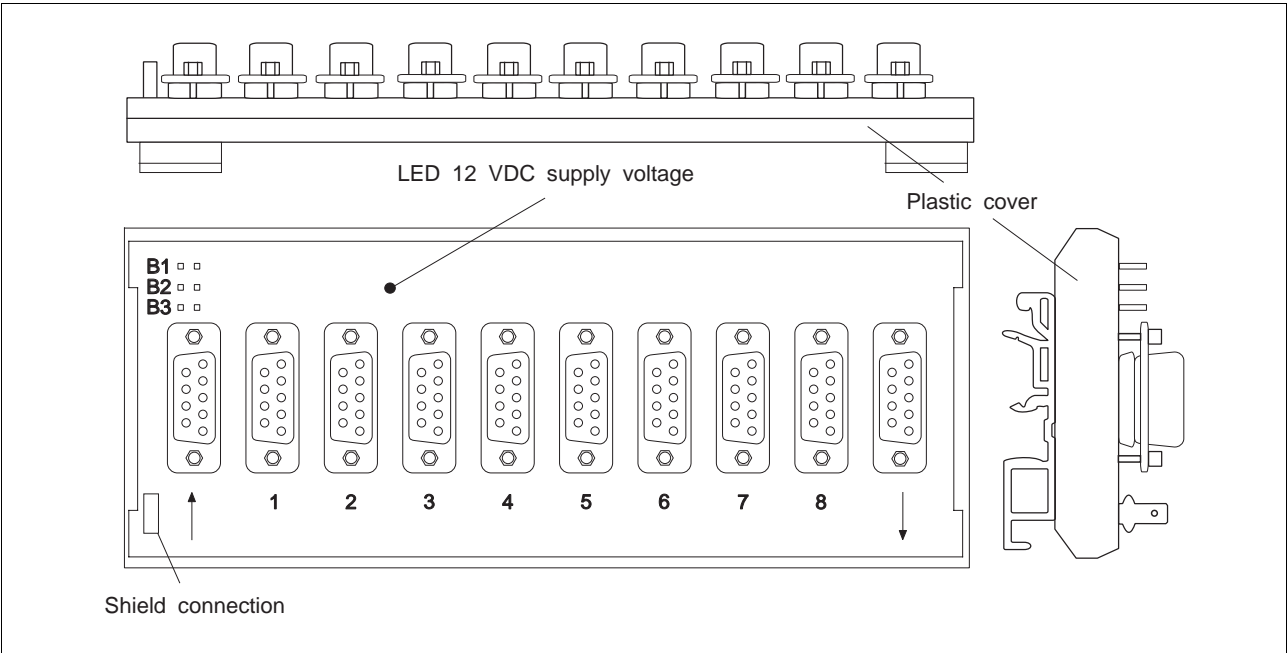

Fig. 6-7 MP 924 interface distributor
1. Wire the MP 924 interface distributor in accordance with fig. 6-7.